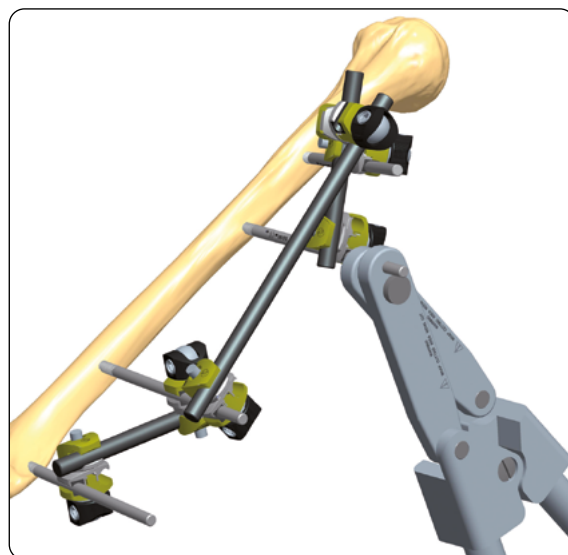

Fig. 10
10) The screw shafts are then cut with the bone screw cutter (**Fig. 10**). Although the screws can be cut before insertion, it is difficult to gauge the length accurately, and it is recommended that they are cut after the fixator has been applied. It is important that all of the screws are inserted first, and the fixator applied with the clamps locked firmly over the screws, about 30mm from the skin. The cutter can then be slid over the screw shanks in turn and the screws cut close to the fixator clamps. This will normally result in about 6mm of screw shank protruding from the clamp. The cutter is designed so that it can be used even when screws are in adjacent seats of the multi-screw clamp. The cut ends of the screws can then be protected with screw caps. When cutting the screws, the arms of the cutter should be extended for greater efficiency and the outer end of the screw held.